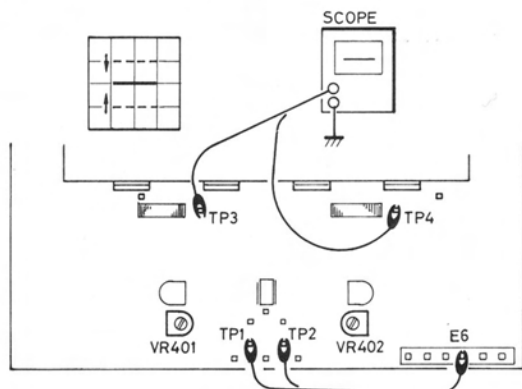

Fig. 1
Before making adjustment, short-circuit pin E6 to pin TP3 (TP-4 for R-ch) on H-AF-119 p-c board, to avoid servo effect. (Fig. 1)
2. Connect the oscilloscope to pin TP3 (TP4 for R-ch) on main amp p-c board. Set volume control of the amplifier to minimum position. Turn on the power. When DC output appears on the screen (the trace will shift upwards or downwards as shown in Fig. 1), adjust potentiometer VR401 (VR402 for R-ch) on H-AF-119 p-c board so that the DC voltage present at the test point is $0V \pm 50mV$.